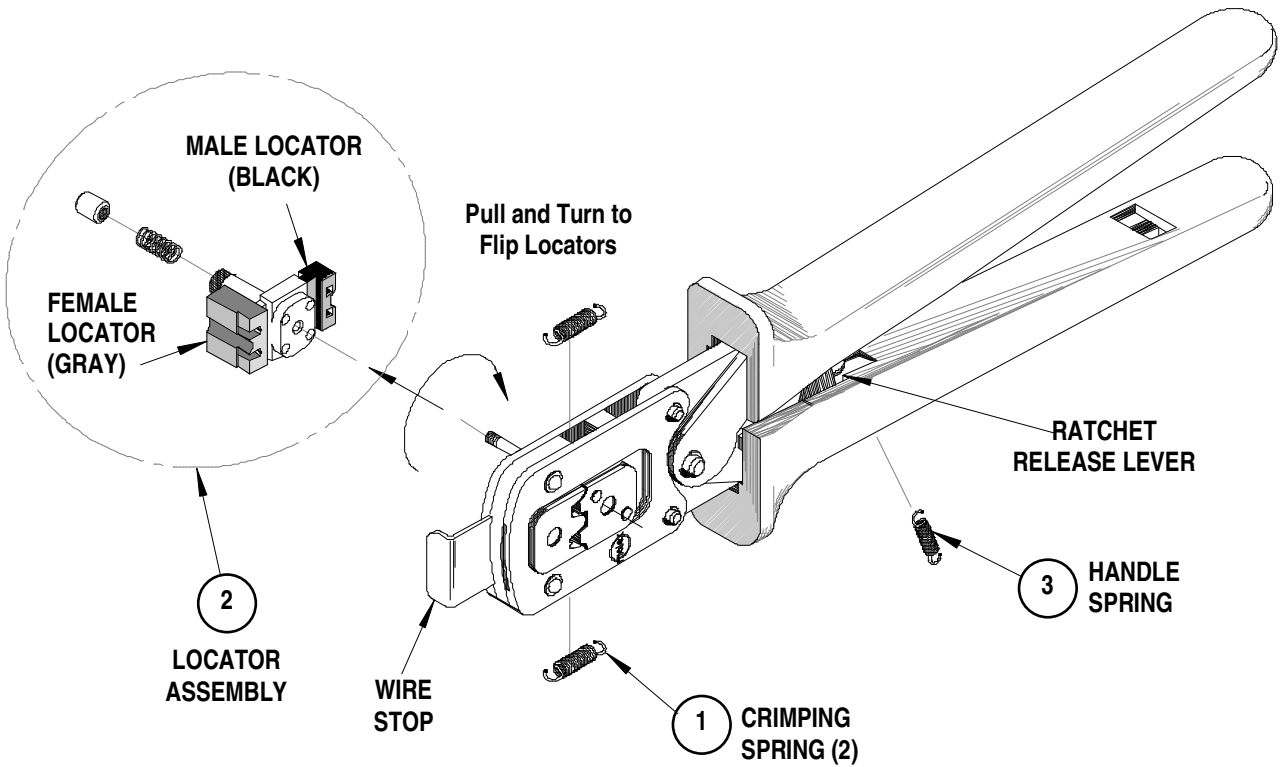

Figure 3
2. To position the desired locator, pull up on the knurled pin and turn 180° till the locator fits snugly in the slot. See Figure 3, Assembly Drawing.
Should this tool ever become stuck or jammed in a partially closed position, **Do Not force the handles open or closed.** The tool will open easily by lifting the ratchet release lever. See Figure 3.